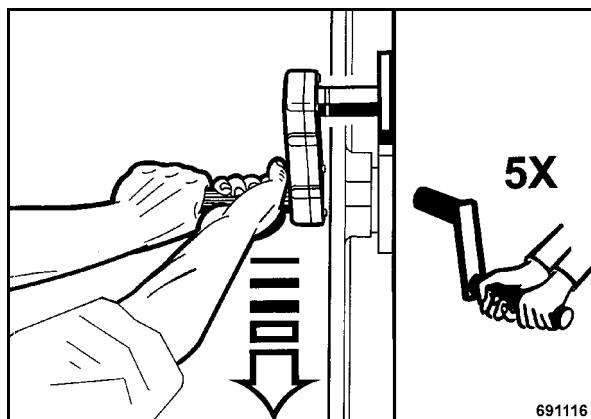

Fig. 27
- Take a correct position to the machine (Fig. 27). Hold the crank handle properly.